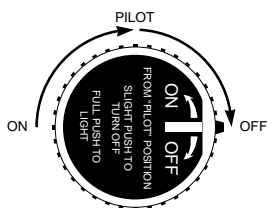

Figure 7 - OFF Position
- Turn control valve knob 1/4 turn to right to PILOT position. Slightly push in knob and turn 1/4 turn to right to OFF position (see Figure 7).